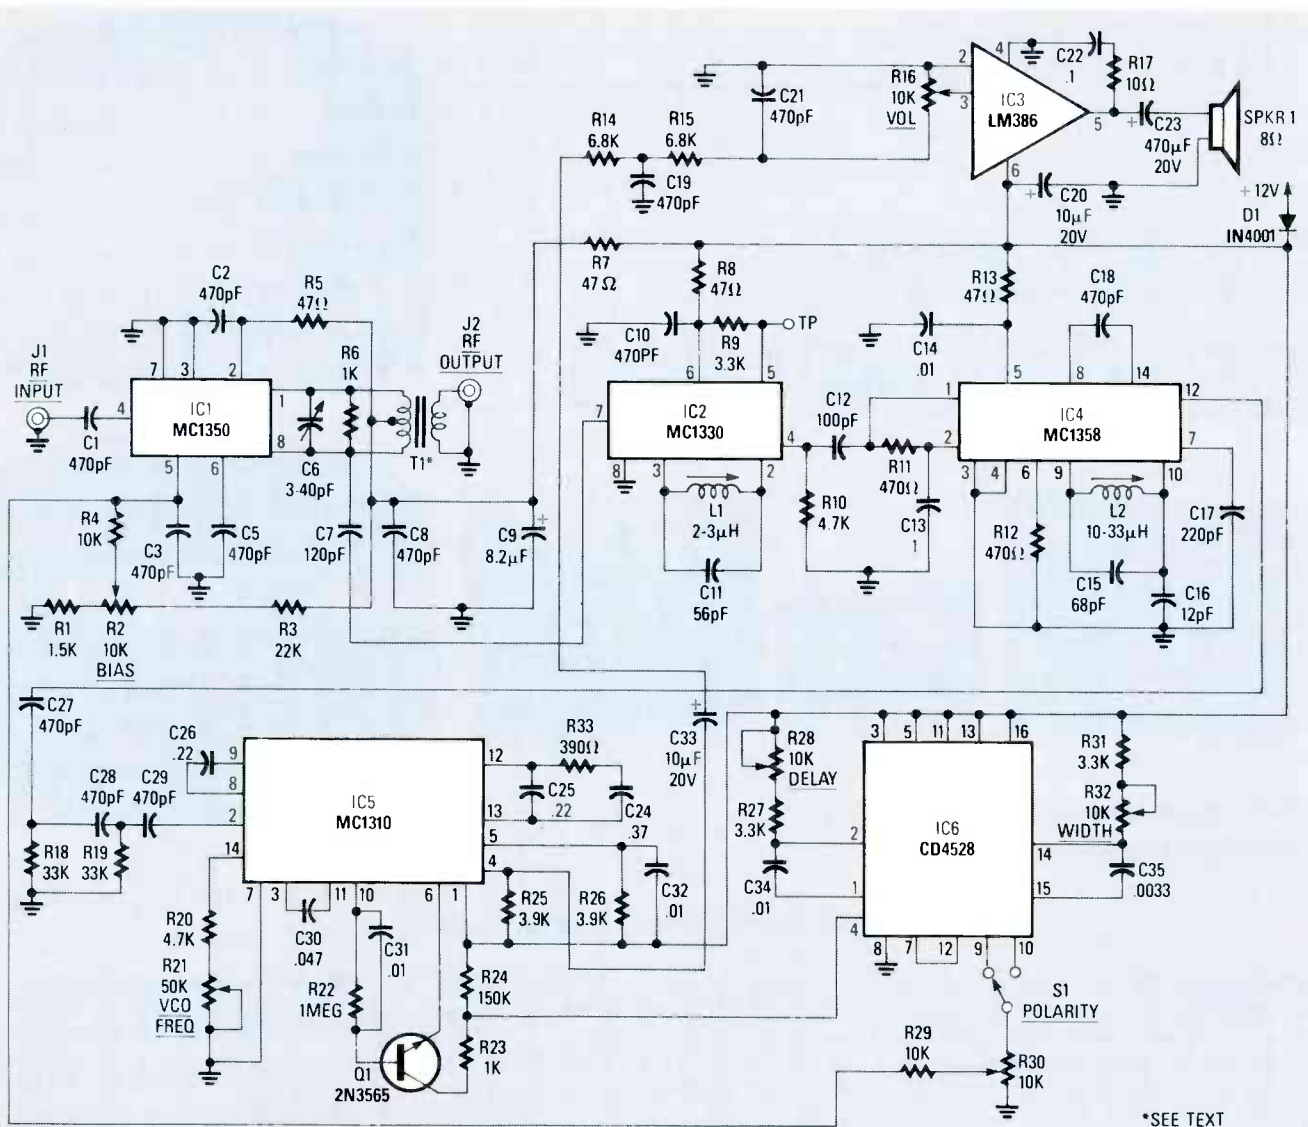

FIG. 1—DESCRAMBLE GATED-PULSE SIGNALS using this easy-to-build circuit. Information for winding transformer T1 and coil L1 can be found in the text.
Figure 1 is an electrical schematic diagram of the invention. The electrodes are any metal that conducts electricity. SCR1 is an SCR. BZ1 is a noise generator. B1 is a battery. R1 is a resistor.
To illustrate one possibility for a patent application, let's look at the circuit in Fig. 1. The circuit is designed to warn of water or moisture on a surface, such as a floor. Only slight dampness is required to set off the alarm, as any dampness will reduce
**FIG. 1—A BATTERY-POWERED MOISTURE alarm.** The circuit might be patentable based on the fact that, in the absence of water, the SCR remains off and negligible current flows, thereby conserving battery life.
In order to decode a gated-pulse signal, we have to restore the correct sync-to-video-amplitude relationship. The circuit shown in Fig. 1 does just that. Let's see how it works.